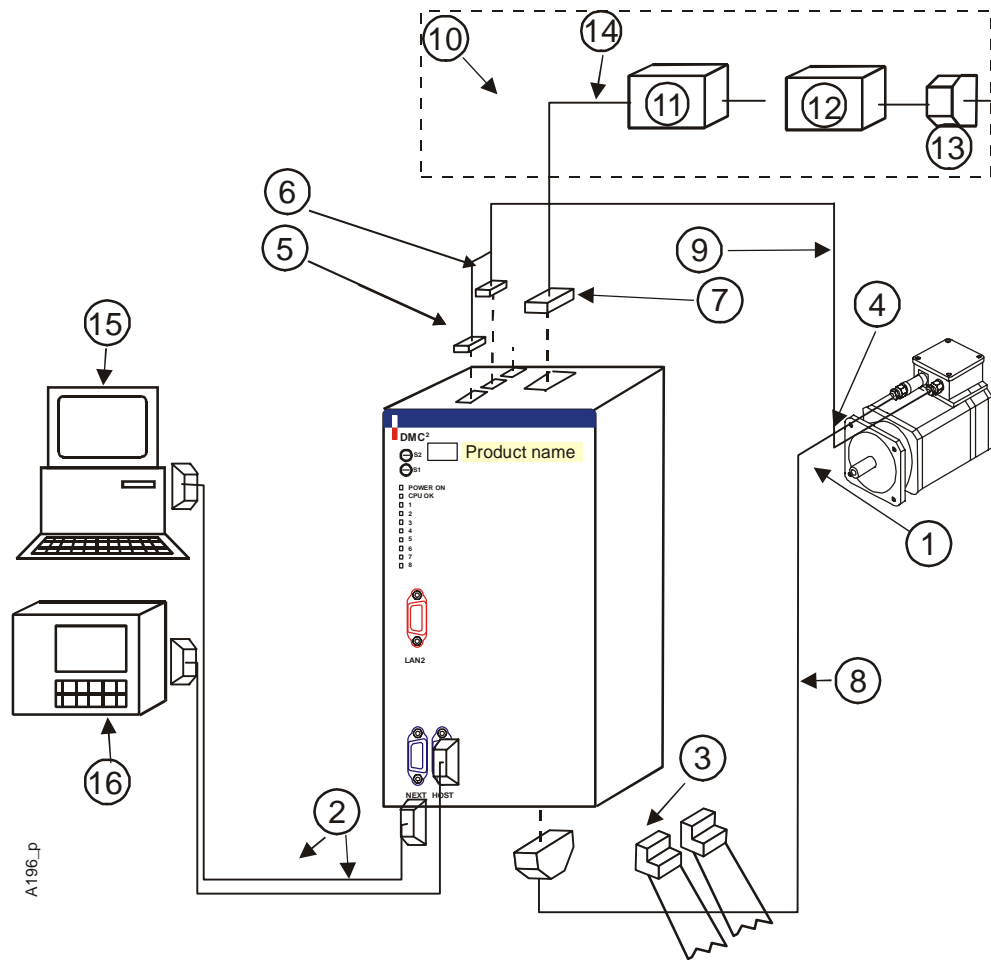

Figure 6. Example of PDS with an AC supplied DMC2 unit.
- One or more AC supplied DMC2 unit(s). See Figure 6.